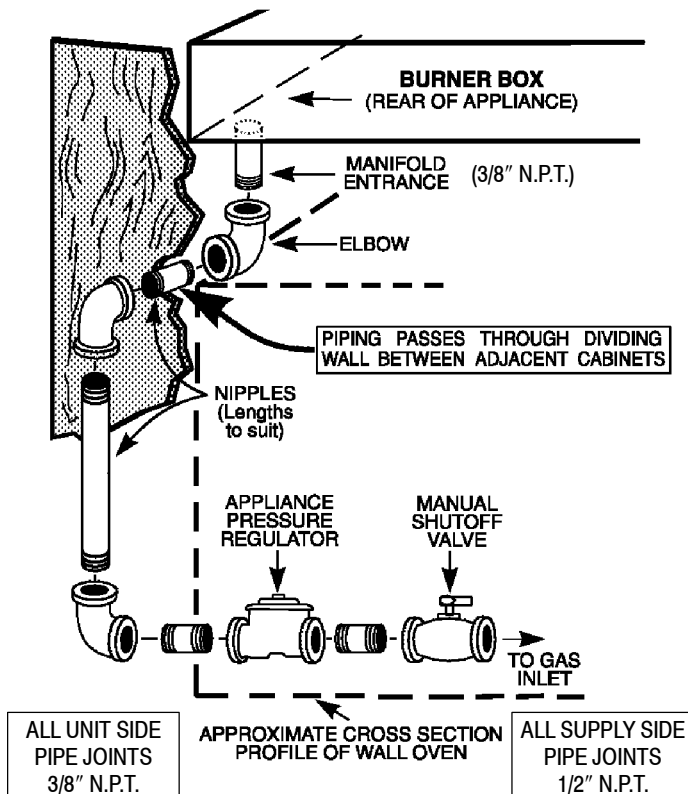

FIGURE 4
Note, regarding Figure 4, above:
- For convenience in service a union (not shown: locally available) should be included in the piping illustrated in figure 4, in a location most practical for the installation. Generally, a practical location is in the cabinet below this appliance, near the manifold entrance, rather than in an adjoining cabinet.
If the outlet is to be mounted in either a left or right adjacent cabinet, a clearance hole, as described above, must be provided in the dividing wall between the cabinets. Figure 4; page 5, illustrates a typical (left side)
dividing wall. The clearance hole (not shown in figure 4) can be located as is convenient in this left wall or in the corresponding right wall.